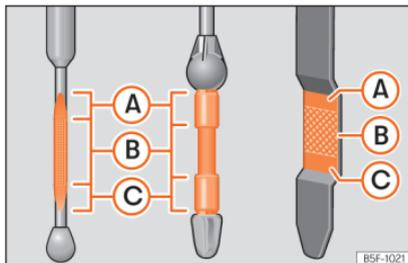

Fig. 270 Engine oil dipstick.
- Then pull it out once more and check the oil level **»» Fig. 270**. Top up with engine oil if necessary.
- When the oil level reaches at least zone » **Fig. 270 B**, unscrew the engine oil filler cap carefully » **!**.
If the oil level is above area » **Fig. 270 A**, do not start the engine. This could result in damage to the engine and catalytic converter. Contact a specialised workshop.
The oil level must never be above zone » **Fig. 270 A**. Otherwise oil can be drawn in through the crankcase breather and leak into the atmosphere via the exhaust system.